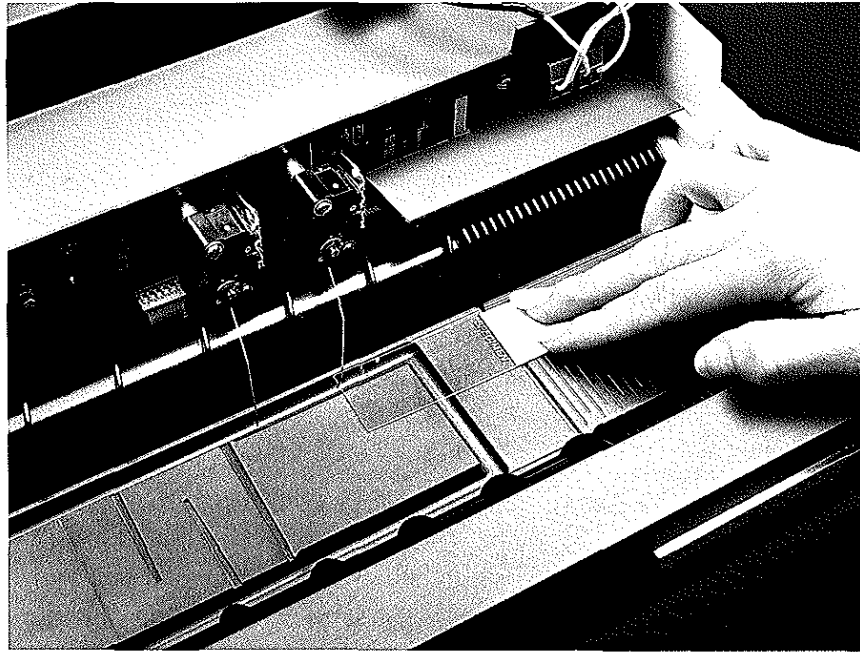

Figure 8-12
- b. The sensing switch should be activated before the finger is lifted over the top surface of the slide. Check this as follows: Lay a slide lengthwise along the back edge of the platen. Slowly push the slide from right to left past the sensing switch finger, listening for a slight click as the sensing switch is activated (Figure 8-12). The click should be heard *before* the finger has been lifted onto the top of the slide. Test each finger in the same manner. If the click is not occurring at the proper time, bend the finger slightly to the right, as directed in Step 4 below.